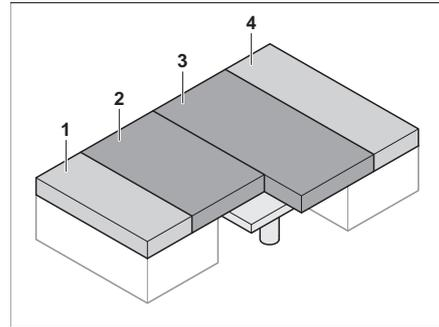

Fig. 80 After conversion
- Pull the seat cushions (Fig. 80,2 and 3) into the centre.
- Insert the back cushions (Fig. 80,1 and 4) between the seat cushions (Fig. 80,2 and 3) and the exterior wall.